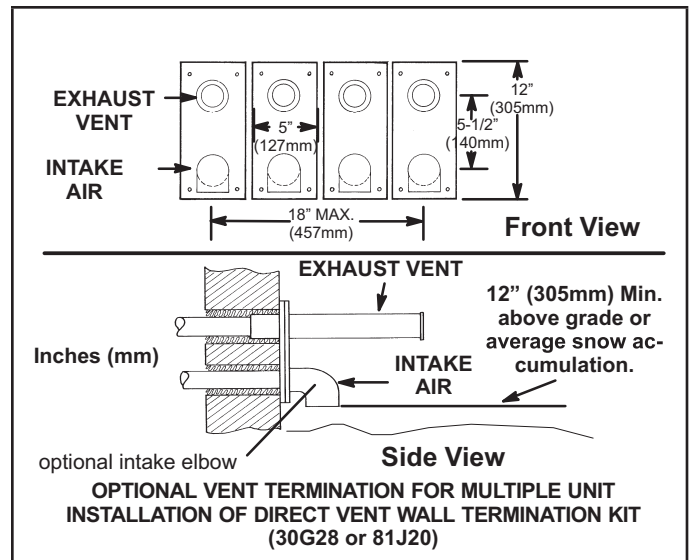

FIGURE 42
- 8 - A multiple furnace installation may use a group of up to four terminations assembled together horizontally, as shown in FIGURE 42.